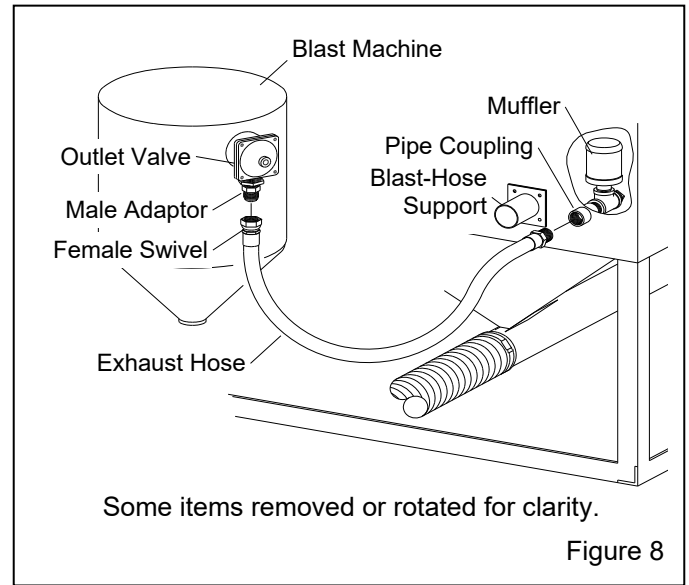

Figure 8
**2.5 Attach Blast-Machine Exhaust Hose –Figure 8**